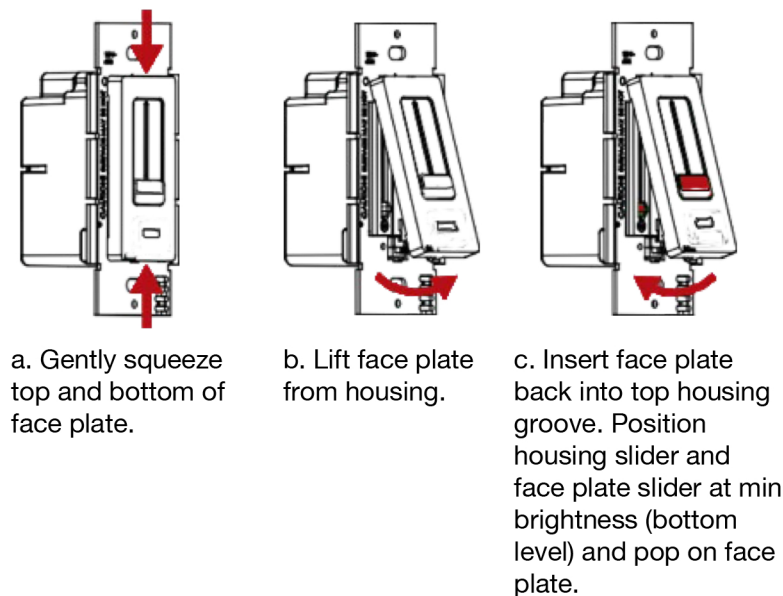

Figure 5
- Pop off face plate, as shown in figure 5